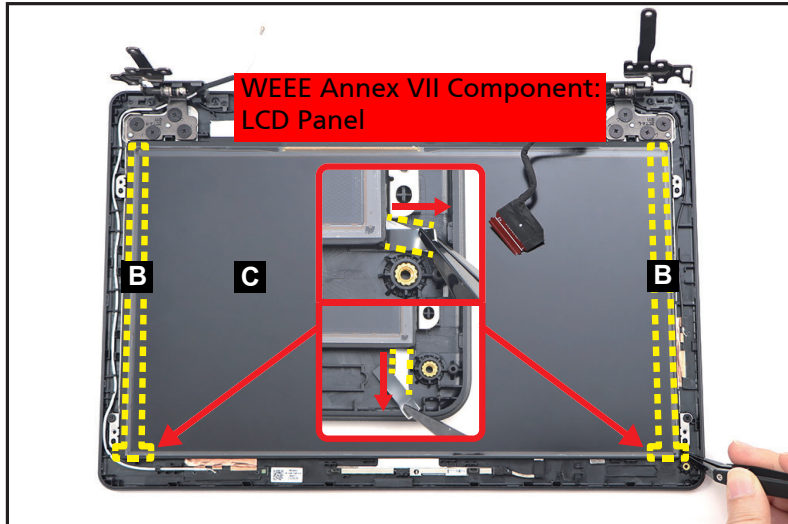

Figure 1-47. LCD Panel Removal
2. Pry slightly to access the double-sided mounting tape (B) underneath the LCD panel (C). Then pull to detach the double-sided mounting tape. Repeat the same procedure to remove the double-sided mounting tape on another side of the LCD panel (Figure 1-47).